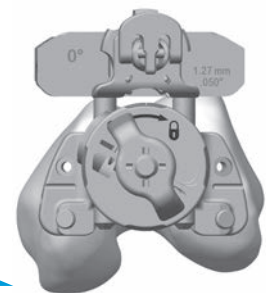

Fig. 8b
- Turn the lock knob on the Adjustable Valgus Guide clockwise, to the locked position, to secure orientation of the assembly (Fig. 8b).